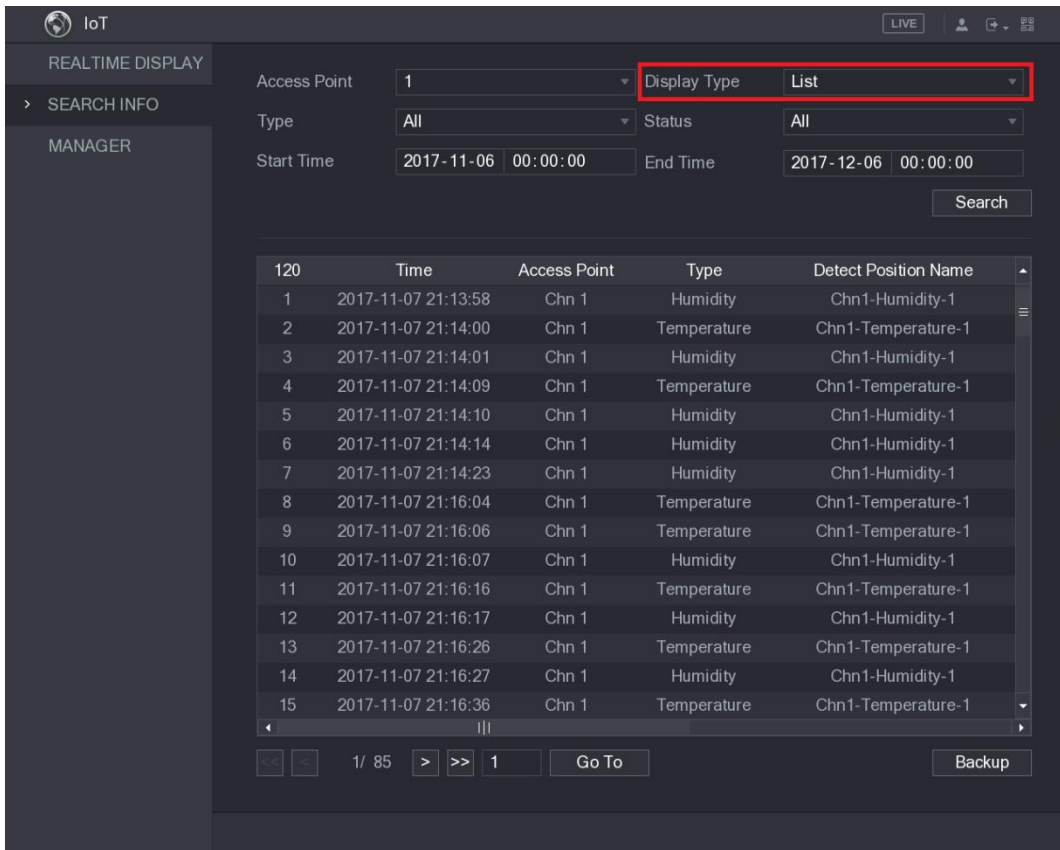

Figure 5-194
- For the data displayed in list, see Figure 5-194.